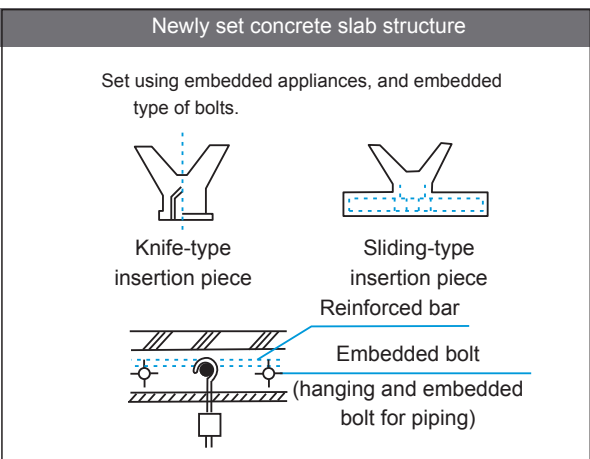

Figure 4.4
- Suspend the air conditioner on the lifting bolt as shown in Figure 4.4. Use a spirit level to find the length and width at level. During the process, you need to repeatedly adjust four Nut 2 on the boom. This situation may arise: In making sure that the air conditioner is level, the height difference between Washer 2 of the four lifting bolts and the bottom surface of the ceiling may not be consistent, hence A is not uniform. At this time, the priority should be to ensure that the unit body is level. Level the entire unit up and down until four level differences are as close as possible to A.